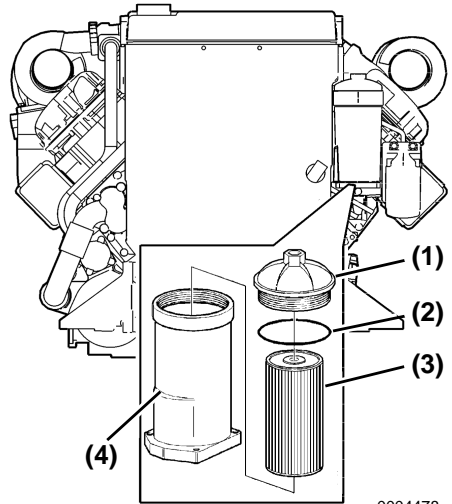

Figure 3
2. Turn the engine oil filter lid (**Figure 3, (1)**) clockwise with a box wrench to remove.
3. Lift out the filter housing lid (**Figure 3, (1)**) with filter (**Figure 3, (3)**). The filter housing (**Figure 3, (4)**) will drain automatically once the filter has been removed.
4. Remove the filter element (**Figure 3, (3)**) from the lid (**Figure 3, (1)**) by carefully bending the filter to one side.
5. Remove the O-ring (**Figure 3, (2)**) from the lid (**Figure 3, (1)**).
- Lubricate a new O-ring with clean engine oil and install in the lid (**Figure 3, (1)**).
- Press a new filter element (**Figure 3, (3)**) into the snap fastener in the lid.
- Replace the filter lid (**Figure 3, (1)**) and tighten to 25 N·m (18 ft-lb).